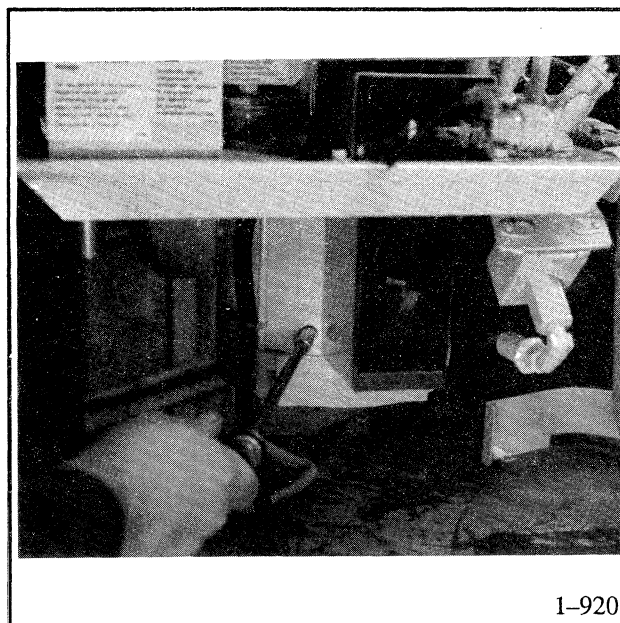

Figure 5-7. Removing Capacitor Box.
8. Remove capacitor box as shown in Figure 5-7.